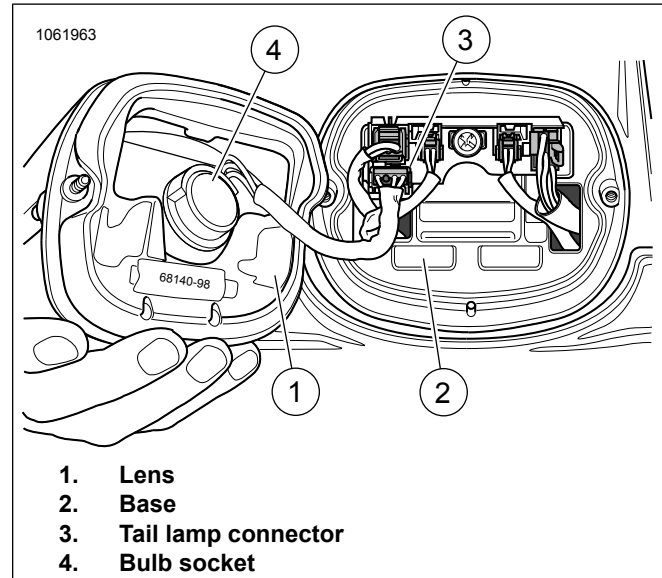

Figure 75.
1. See Figure 75. Remove two screws and lens from base.